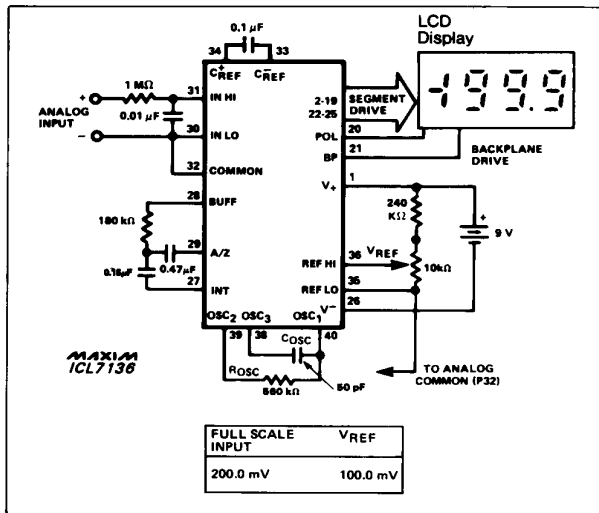

Figure 1. Maxim ICL7136 Typical Operating Circuit
Note 3: Unless otherwise noted, specifications apply at TA = 25°C, fCLOCK = 16kHz and are tested in the circuit of Figure 1.
(V+ = 9V; TA = 25°C; fCLOCK = 16kHz; test circuit - Figure 1; unless noted)
**Note 8:** Test condition is VIN applied between pins IN-HI and IN-LO through a 1MΩ series resistor as shown in Figure 1.
**Note 12:** 1MΩ resistor is removed from circuits in Figure 1.